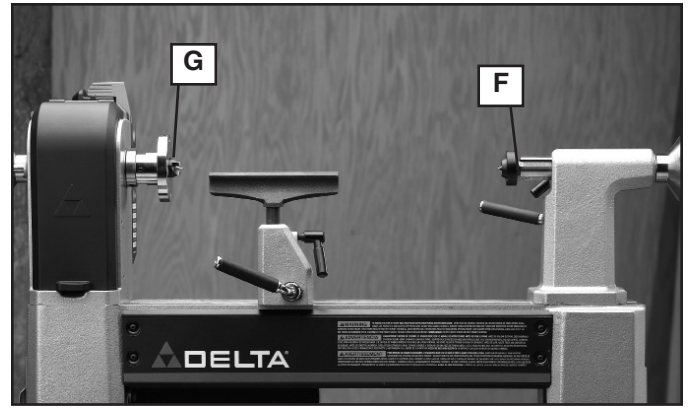

Fig. 5
**⚠ WARNING:** To reduce the risk of injury, be sure the taper on the spur center (G) is clean before mounting to the headstock spindle.
The spur center (G) Fig. 5 and live center (F) can be used together (as shown in Fig. 5) to turn workpieces up to 16-1/2" (419 mm) in length.